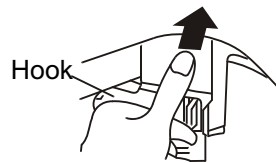

Figure 2
(4). Push the upper part in as indicated in Figure 2.